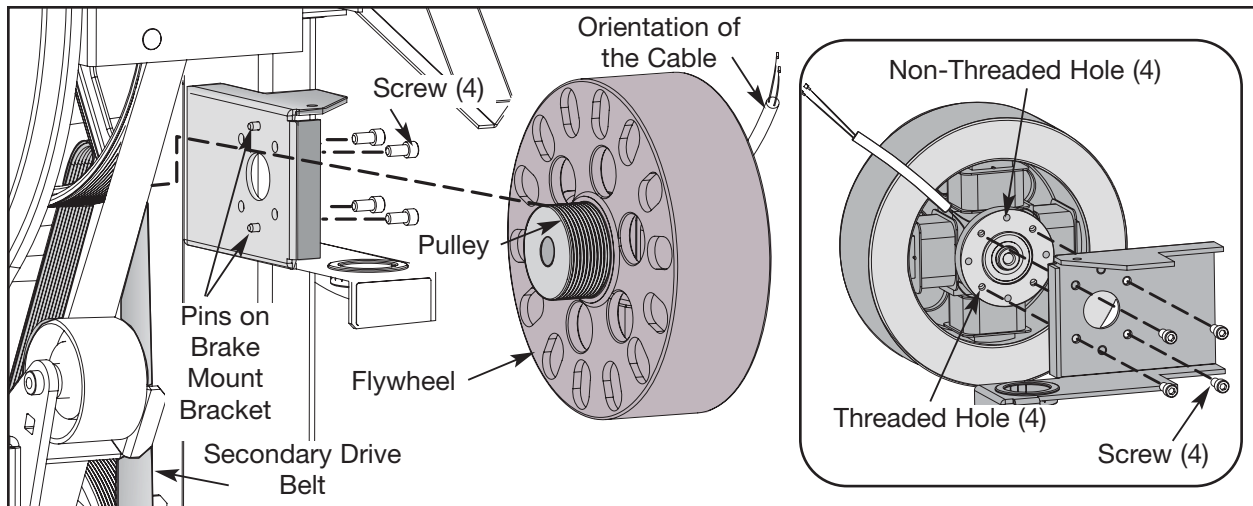

Figure 16
- A. Wear work gloves whenever handling the eddy current brake. The pulley is sharp. See Figure 16.
- C.** Using a 3/16" Allen wrench, first remove the two bottom screws securing the eddy current brake in place. See Figure 16.
- A.** Locate the holes on the eddy current brake. Notice that there are four threaded holes and four non-threaded holes. See Figure 16.
- B.** Locate the two pins on the brake mount bracket. See Figure 16.
- C.** Orient the brake with the cable away from the unit. See Figure 16.
- G.** Using a 3/16" Allen wrench, first tighten the two top screws securing the eddy current brake. See Figure 16.